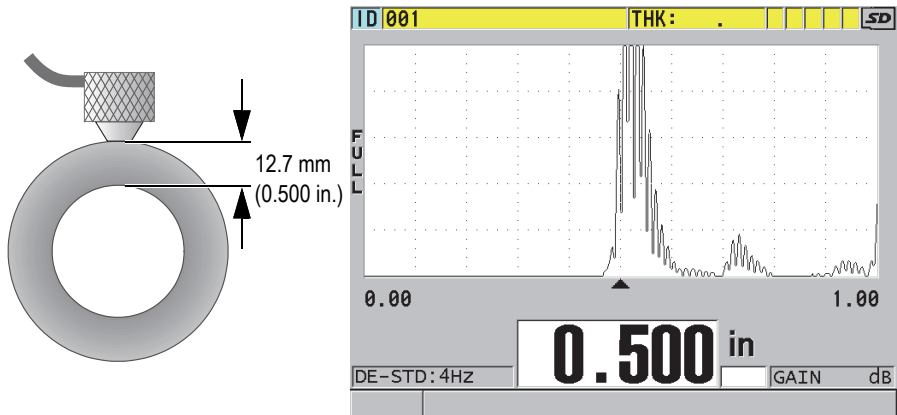

Figure 5-9 Coupling dual element transducer and reading the measured thickness
- Using moderate to firm pressure, couple the tip of the transducer to the surface of the test material, and keep the transducer as flat as possible on the material surface (see Figure 5-9 on page 90).